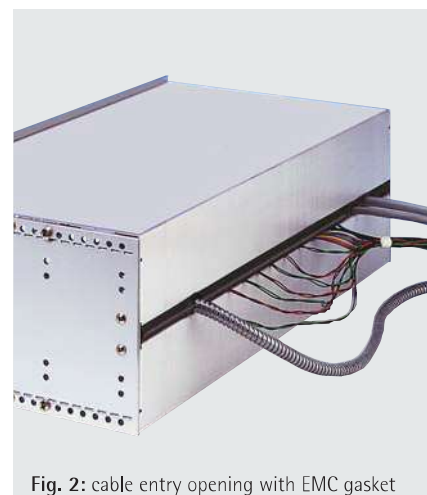

Fig. 2: cable entry opening with EMC gasket
- customized, shielded cable access opening due to flexible EMC textile seal (see fig. 2)